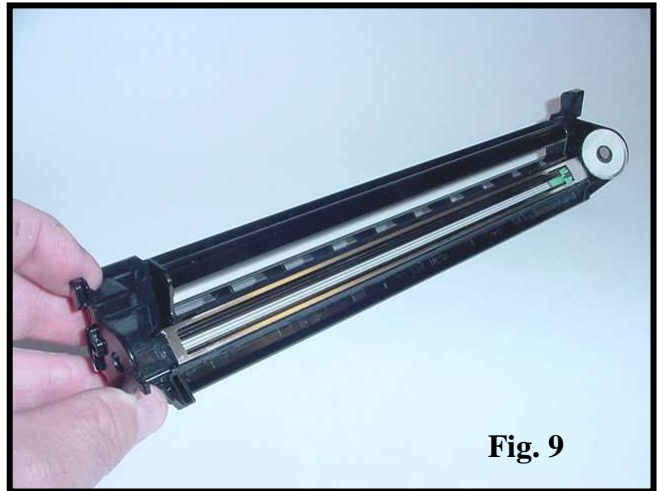

Fig. 9
9. Clean the corona grid with compressed air (Fig. 9). Use a cotton swab with 99% Isopropyl Alcohol to remove adhered toner to the corona wire.